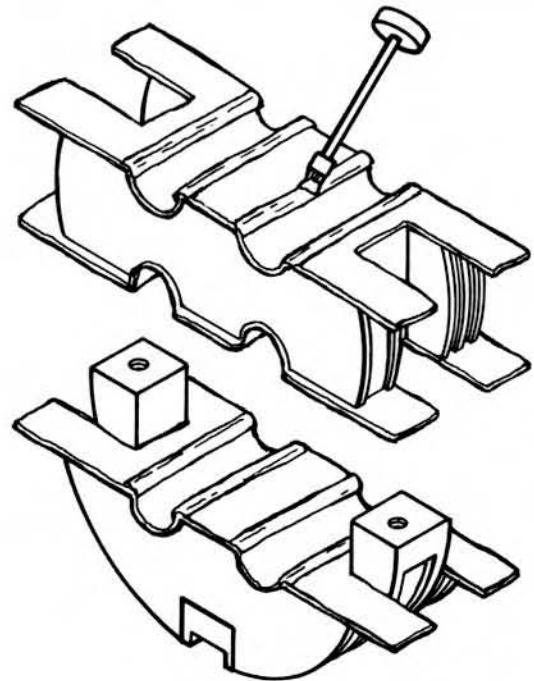

Figure 20
8.04 Before applying the prepared end plate halves to the cable, apply C-Cement 1/4" wide, adjacent to the hole and 1/4" wide into the hole for the total width of the end plate. Figure 20.
8.05 Figure 20 shows the completed LOCK-TAPE™ Sealant application on the end plates.